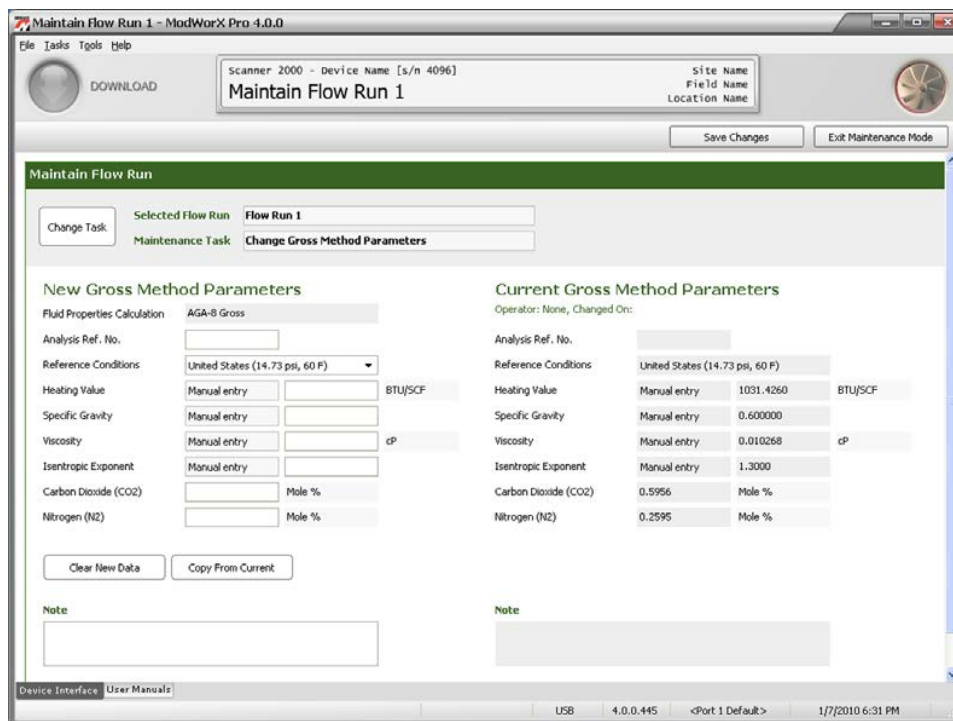

Figure 12.4
- b. Click **OK** to save the settings and return to the Maintain Flow Run screen (Figure 12.4).